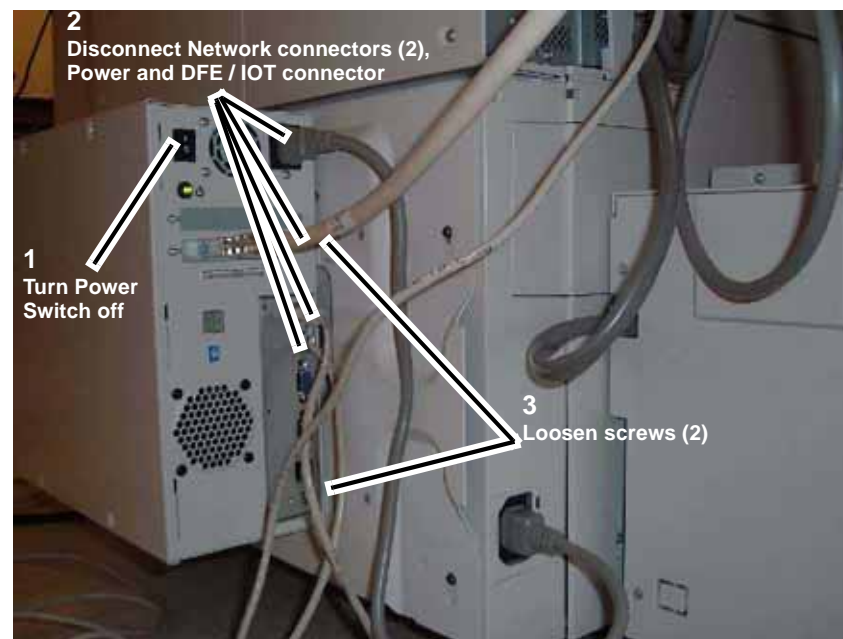

Figure 1 Disconnecting connectors and loosening screws
1. Disconnect connectors and loosen screws (Figure 1).